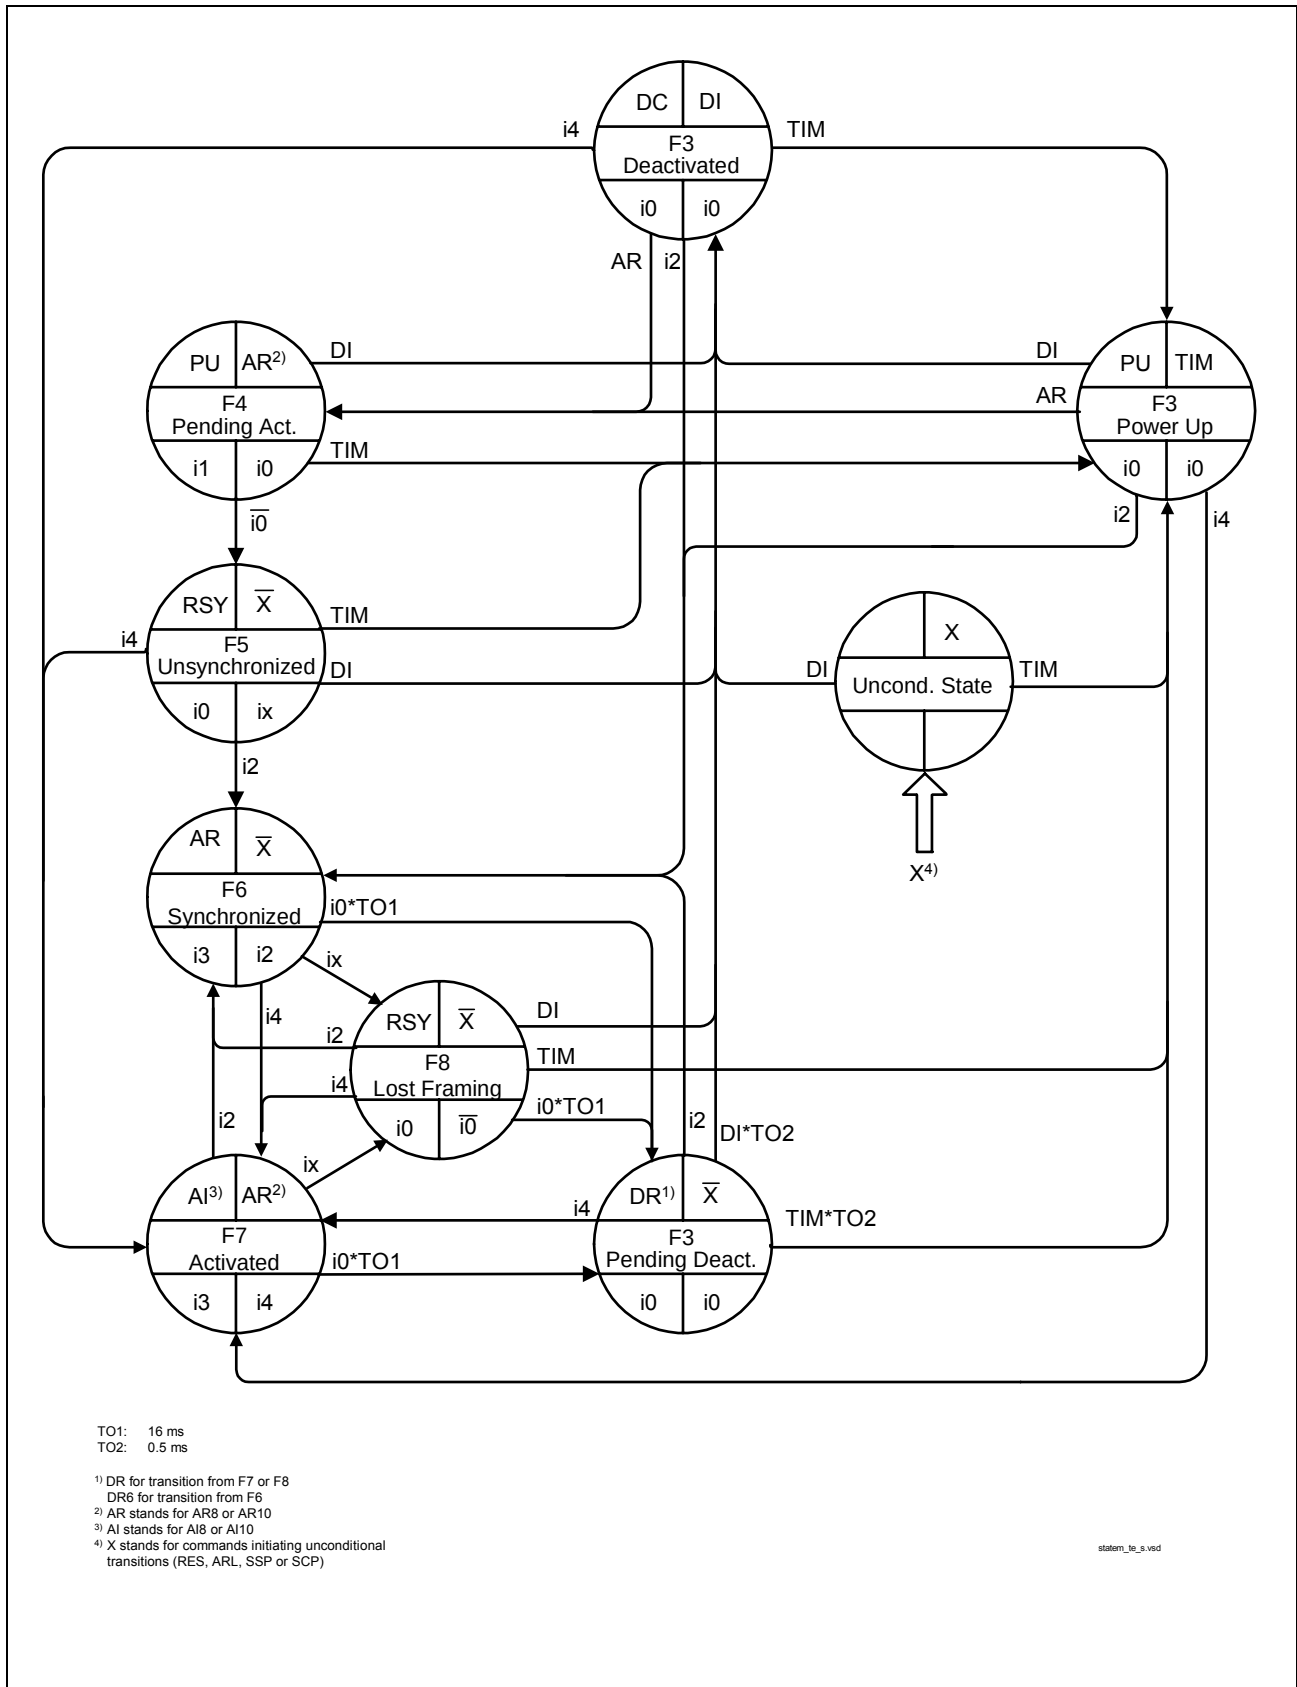
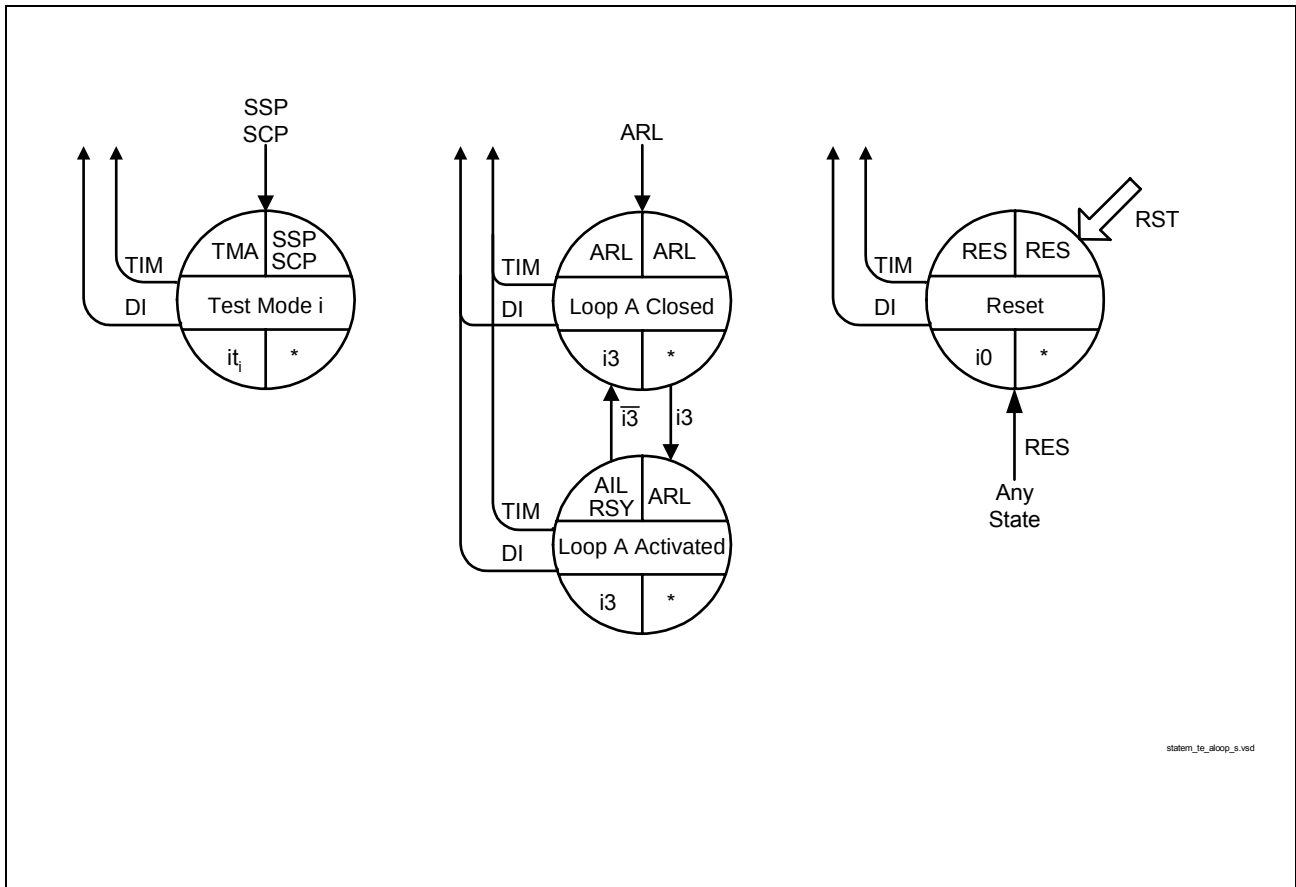

**Figure 39 State Transition Diagram (TE, LT-T)**
**Figure 40** State Transition Diagram of Unconditional Transitions (TE, LT-T)
The state diagrams of the ISAC-SX are shown in Figure 39 and Figure 40. The activation/deactivation implemented by the ISAC-SX agrees with the requirements set forth in ITU recommendations. State identifiers F1-F8 are in accordance with ITU I.430.
**Figure 39** shows the state transition diagram of the ISAC-SX state machine. **Figure 40** shows this for the unconditional transitions (Reset, Loop, Test Mode i).